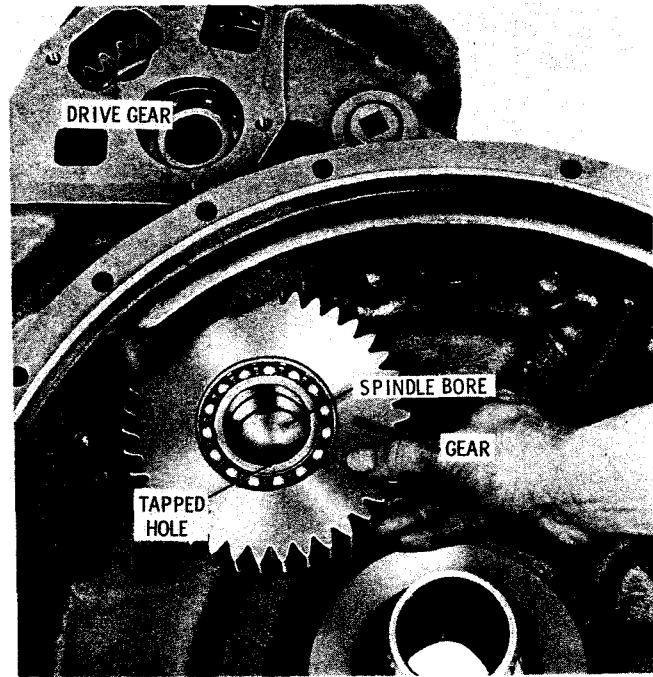

Fig. 7-60. Installing oil pump idler gear assembly S1705
(6) Install the oil pump idler gear and bearing assembly (snapping down) over the idler gear spindle bore in the converter housing (fig. 7-60). Align the gear with the spindle bore.